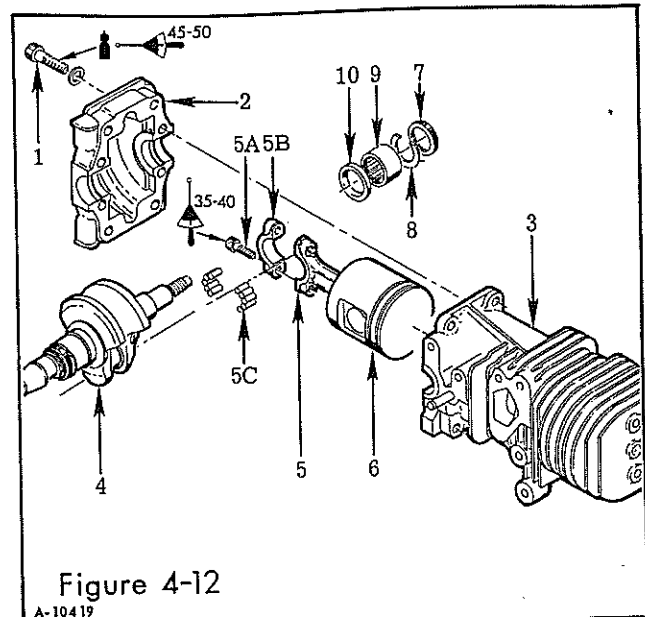

Figure 4-12
1. Remove the four screws (1, Figure 4-12) attaching the crankcase bottom to the crankcase cylinder (3) and remove the crankcase bottom.
2. Lift out the crankshaft (4), connecting rod (5) and piston (6) as an assembled unit.
- a. If the clutch rotor, etc. was removed, the oil seals (7), retaining rings (8), crankshaft bearings (9) and thrust plates (10) can now be removed.